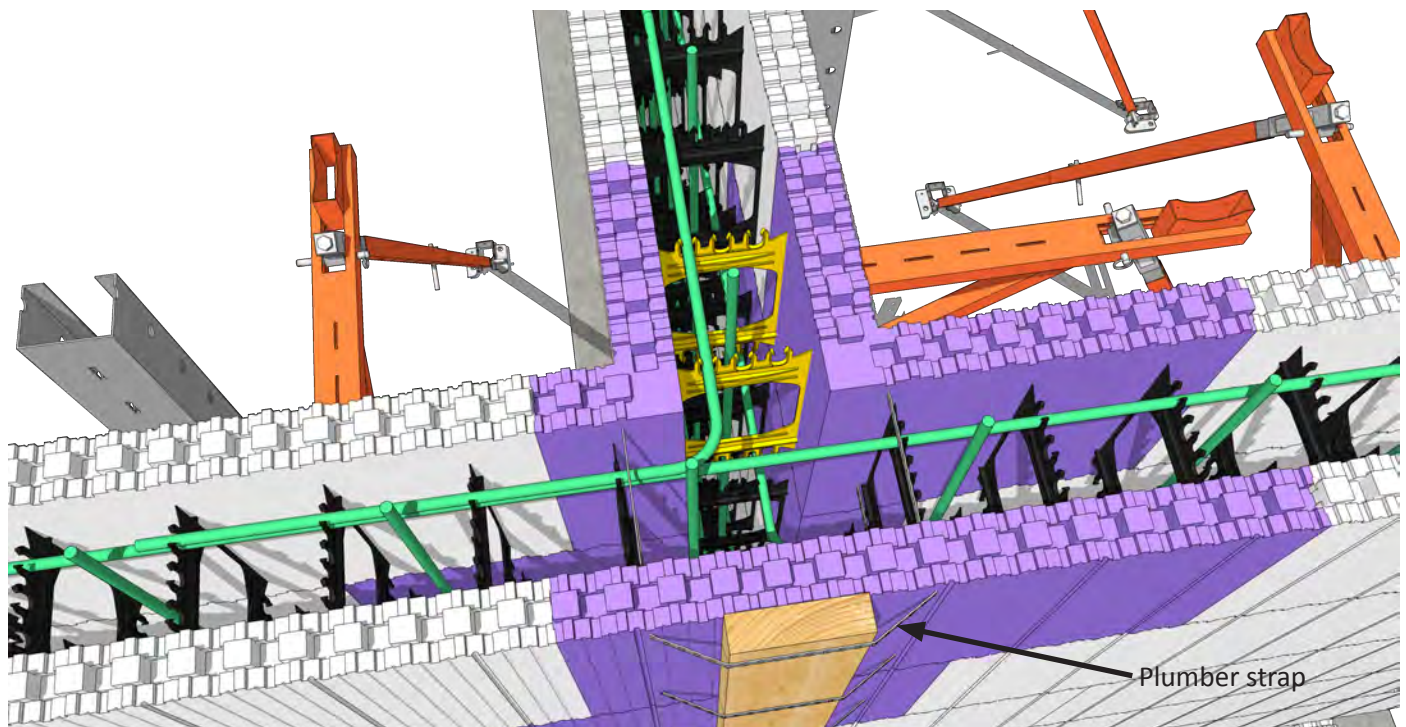
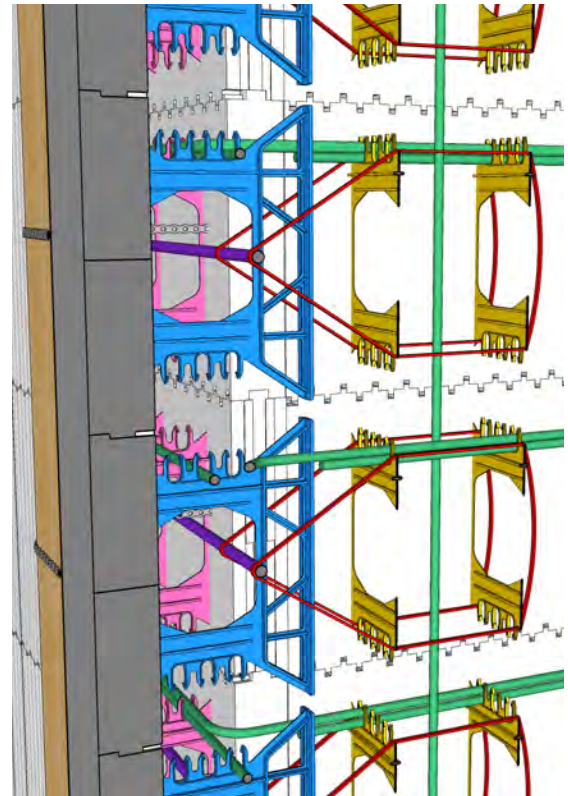

Figure 16 – Typical T-wall connection diagram showing Amvic's molded R22 6" (152mm) blocks
Figure 17 – Section view showing location of #5 (15M) bar and zip ties
2. Use Amvic T-blocks where applicable. Amvic's T-block come in pairs, a shorter and longer that stagger and create a running bond pattern on all three sides (see highlighted T-blocks in purple Figure 17).
5. For above grade levels where there is no ground surface to anchor the exterior bracing to, use plumber straps (highlighted in red, Figure 17) fastened to the first two webs (highlighted in yellow, Figure 16). Do not tighten the straps yet.